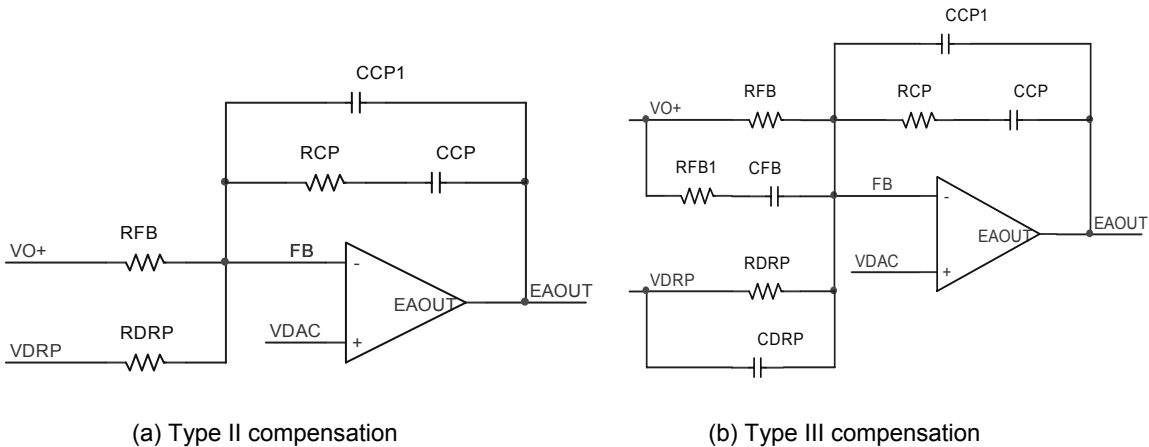

Figure 8. Voltage loop compensation network
Resistors  $R_{FB}$  and  $R_{DRP}$  are chosen according to Equations (13) and (14), and the selection of compensation types depends on the output capacitors used in the converter. For the applications using Electrolytic, Polymer or AL-Polymer capacitors and running at lower frequency, type II compensation shown in Figure 8(a) is usually enough. While for the applications using ceramic capacitors and running at higher frequency, type III compensation shown in Figure 8(b) is preferred.
For applications where AVP is not required, the compensation is the same as for the regular voltage mode control. For converter using Polymer, AL-Polymer, and ceramic capacitors, which have much higher ESR zero frequency, type III compensation is required as shown in Figure 8(b) with  $R_{DRP}$  and  $CDRP$  removed.